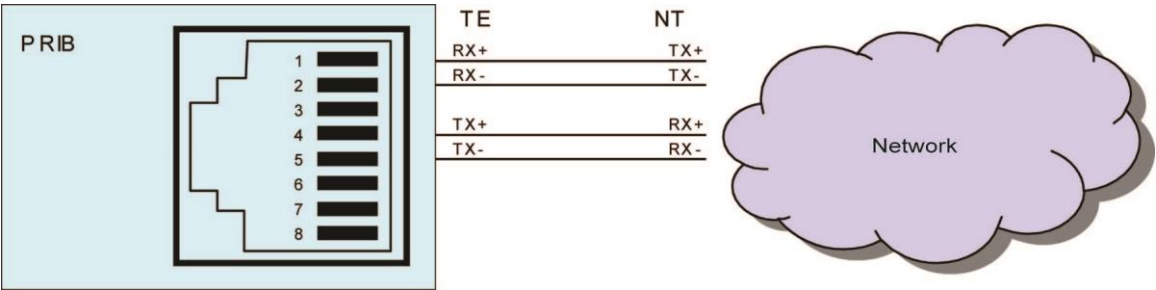

Figure 4.3.3.3-1 E1-PRIB Connector Wiring Diagram
- 2) Insert and loop the RJ45 terminated cable for the E1-PRIB through the core as shown in Figure 4.3.3.3-1.
Refer to the pin-out chart and Figure 4.3.3.3-1 E1-PRIB Connector Wiring Diagram below,